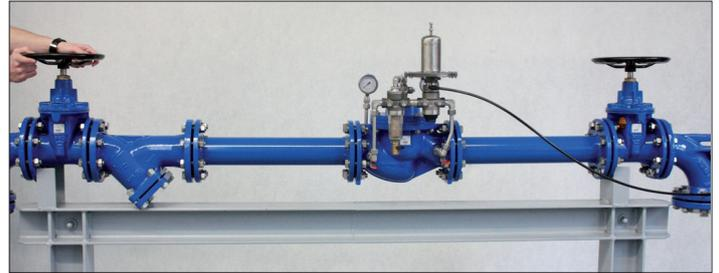

Figure 33: Partial opening of the upstream pressure valve
- The level control valve is filled by slow and careful opening of the upstream pressure valve (e.g. a gate valve, see Figure 33)